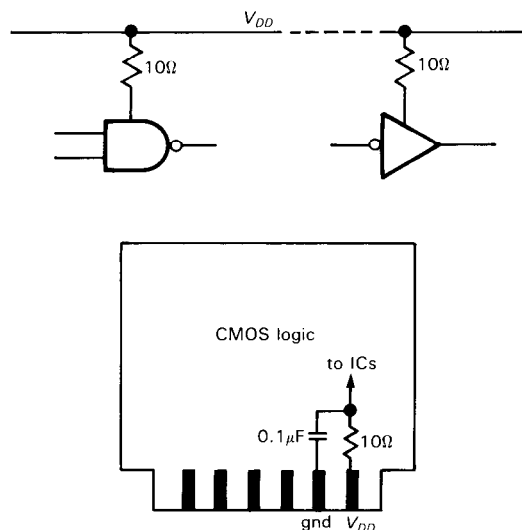

Figure 14.39. Supply current sensing (“current spy”).
7. *Put current-sensing resistors in the V_{DD} lead.* In certain failure modes (see below), particularly those caused by static damage, a CMOS chip may draw excessive quiescent current; a 10 ohm resistor in series with V_{DD} on each board (bypass the load side) makes it easy to see if that is happening. Putting such a resistor on each chip (usually no need to bypass in this case) allows you to locate the bad chip quickly (Figure 14.39).